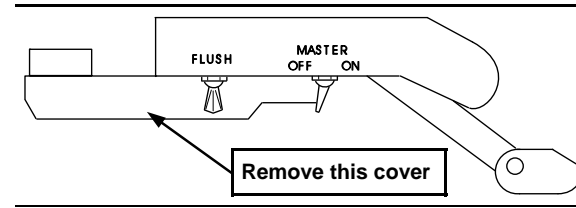

Figure 3
the short control arm, as shown in **Figure 3** (3/32" hex key).
4. Install the cuspidor (**Figure 3**).